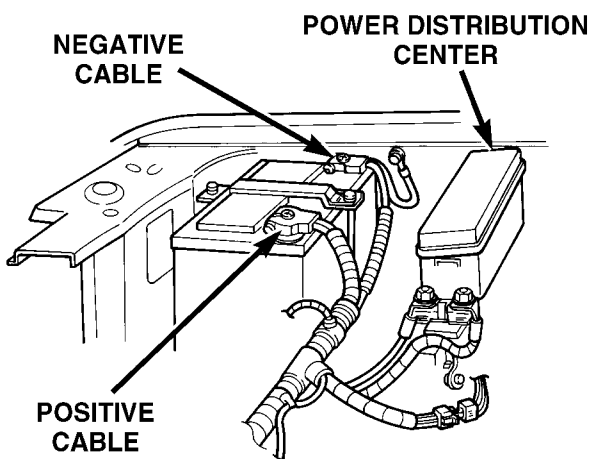

Fig. 13 Power Distribution Center
- (1) Disconnect and isolate the battery negative cable.
- (2) Remove the cover from the Power Distribution Center (PDC) (Fig. 13).